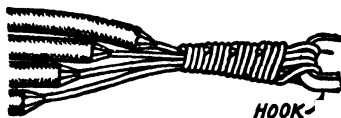
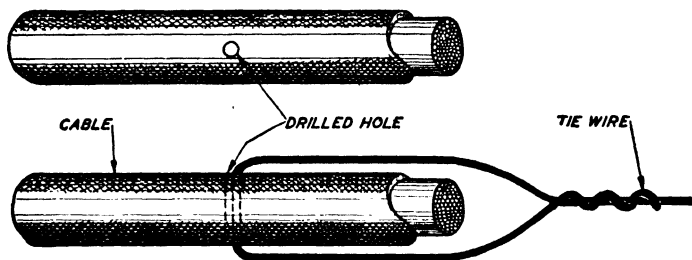

Fig. 42. Method of Fastening Wires to Fish Tape
Fig. 43. Method of Attaching Pulling-In Rope to Large Cable
**Method of Attachment.** In Fig. 42 is shown a method of attaching small and medium-sized wires to the fish tape. Fig. 43 shows one of a number of methods of attaching larger wires to a pulling rope. Large wires or cables should be attached so that their ends are